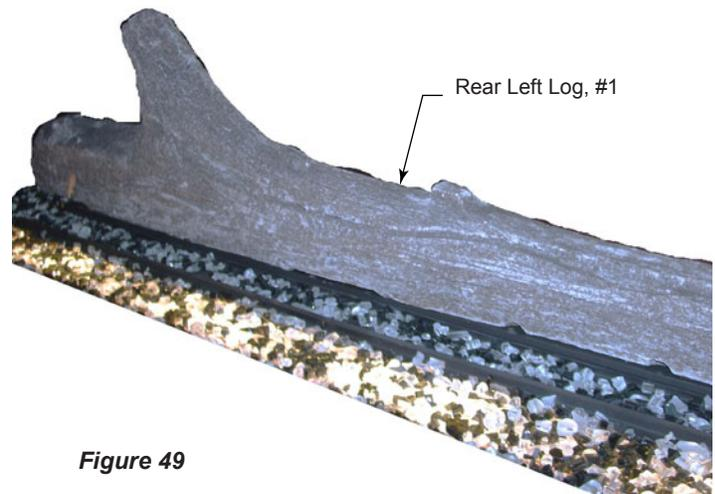

Figure 49
3. Place the large rear left log #1 by aligning the holes in the bottom of the log with the two (2) pins. *Figure 49*